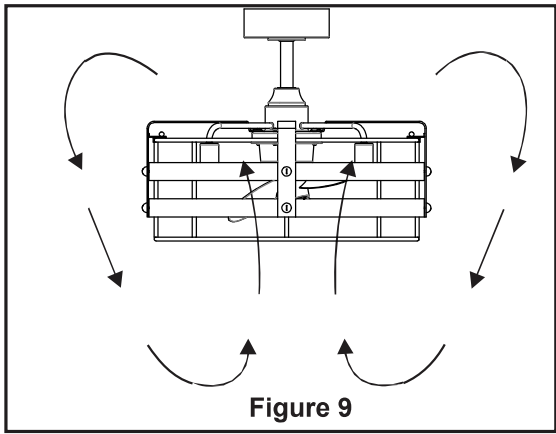

Figure 9
- Cool weather - (Reverse) An upward airflow moves warm air off the ceiling area as shown in. (Figure 9) This allows you to set your heating unit on a lower setting without affecting your comfort.